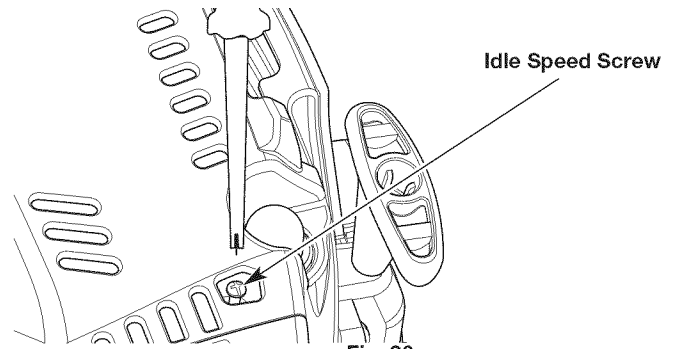

Fig. 26
- If the engine stops, increase the idle speed. Use a small Phillips screwdriver to turn the idle speed screw clockwise, 1/8 of a turn at a time, until the engine idles smoothly (Fig. 26).
- If the cutting head spins when the engine idles, reduce the idle speed. Turn the idle speed screw counterclockwise, 1/8 of a turn at a time, until the cutting head stops moving (Fig. 26).